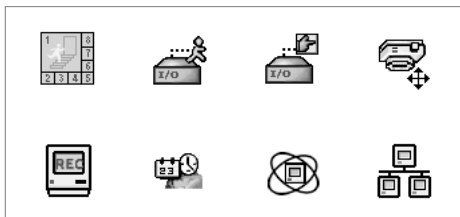

Figure 14 The OSD menus in Main System
1. Press the **OK/Menu** button to open the OSD (see Figure 14).